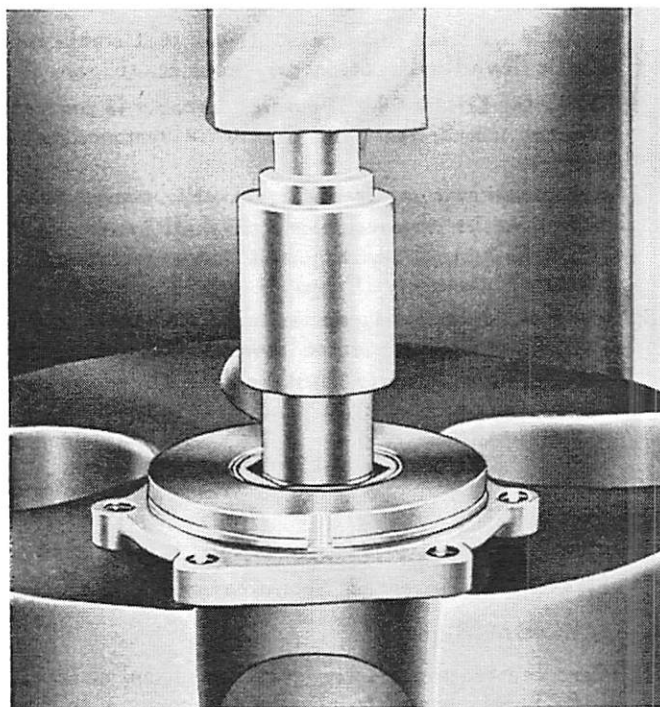

Figure 13. Replacing Bearing (Crankcase Bottom)
12. Replace bottom roller cartridge bearing in crankcase bottom (stamped side up) with same tool (91-24143) to press in bearing until seated. (Figure 13)
4. Set other end of tool, recessed end to bearing, and press together. (Figure 13)